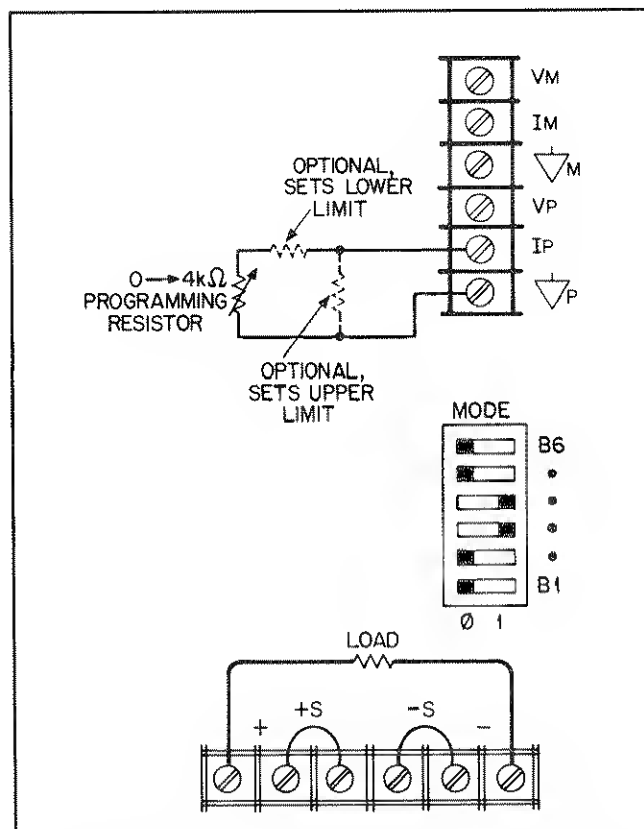

Figure 3-12. Resistance Programming of Output Current
**3-205 Constant Current Output, Resistance Control.** The setup shown in Figure 3-12 allows the output current to be varied by using an external resistor to program the supply. The discussion in Paragraph 3-203 for constant voltage operation also applies for constant current operation.
*If the programming terminals (IP to  $\nabla$  P) become open circuited during resistance programming, the output current will tend to rise above rating. The power supply will not be damaged if this occurs, but the user's load may be damaged. If there is a possibility that the programming leads may be opened, it is suggested that the optional resistor be connected directly across terminals IP and  $\nabla$  P, as shown in Figure 3-12. The value of this resistor should be selected to limit the output current to the maximum that the load can handle without damage. For example, if the load can handle half the full current rating of the power supply, a 2000 ohm resistor should be connected from IP to  $\nabla$  P. Of course, if this resistor is used, the resistance value actually programming the supply is the parallel combination of the programming resistor and the optional resistor.*